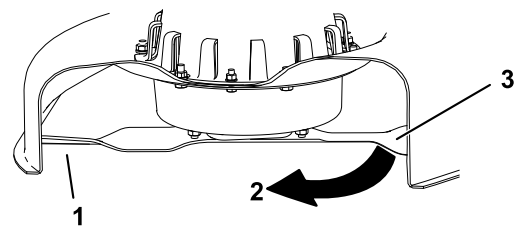

Figure 31
3. Measured distance between blade and the surface (A)
4. Rotate the same blade 180 degrees so that the opposing cutting edge is now in the same position (Figure 31).